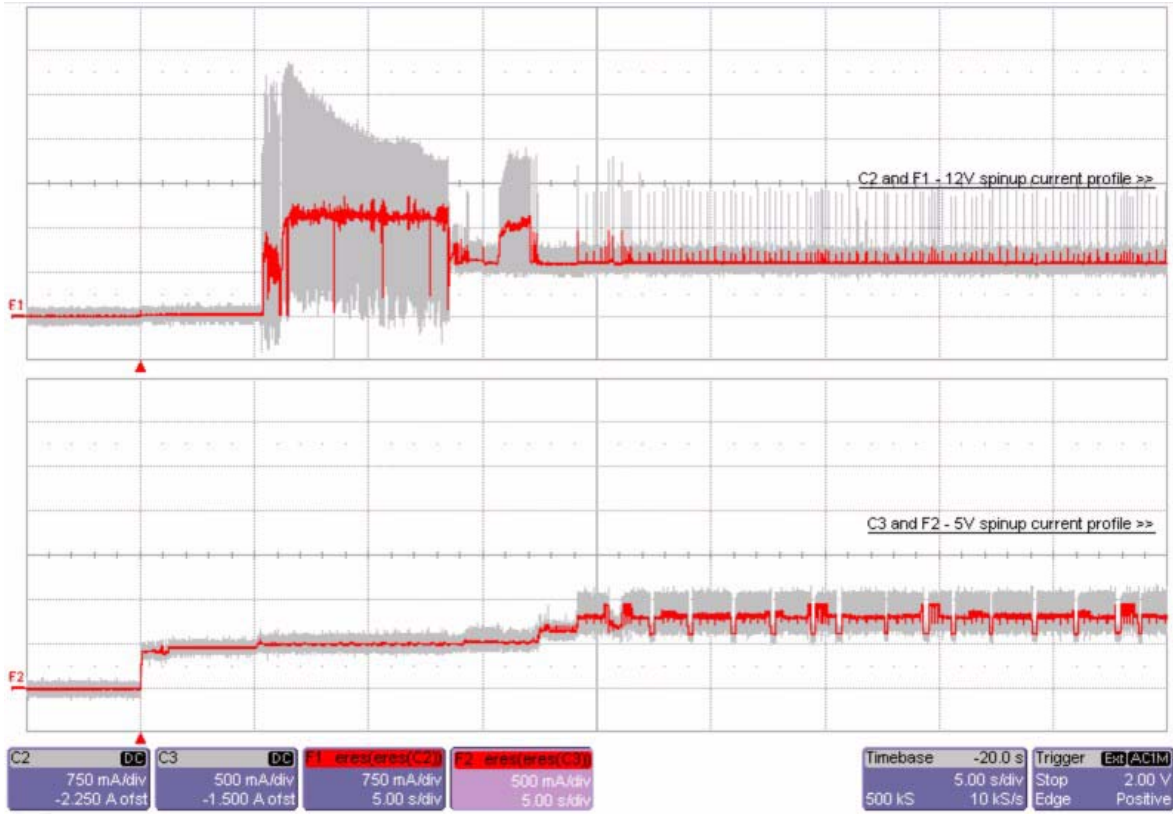

Figure 2. Typical ST3450856SS current profiles
- [3] See +12V current profile in Figure 2.